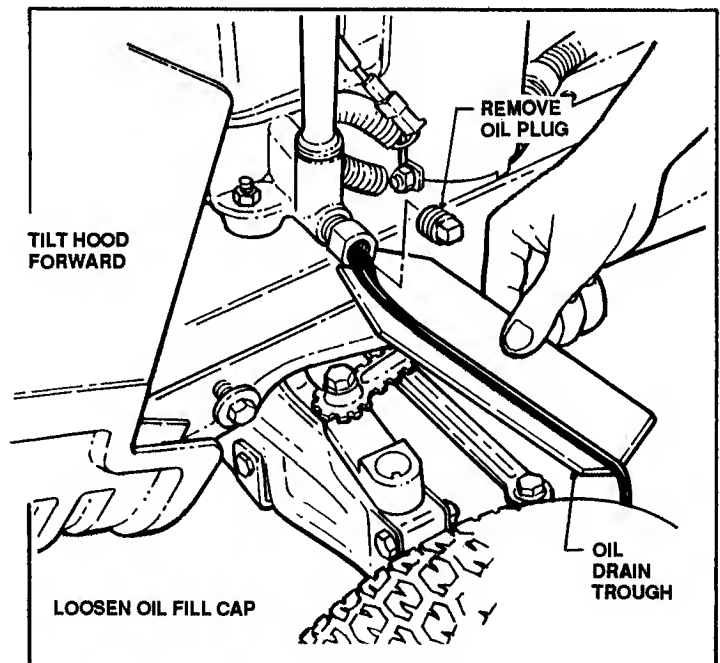

FIGURE 18
6. Loosen Oil Drain Plug. Place trough under plug. Place a flat container (2 qt. Min. Capacity) beneath end of Oil Drain Trough. Remove plug. See Figure 18.